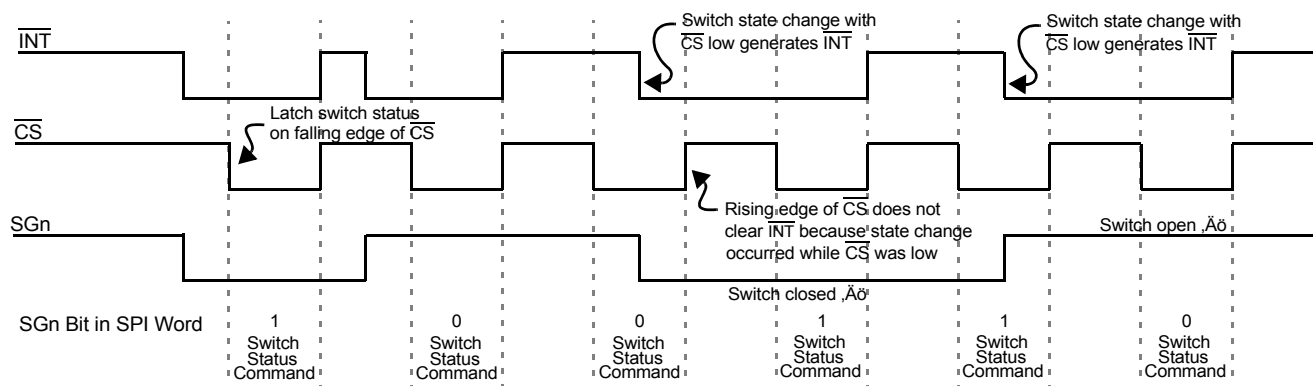

Figure 6. Normal Mode Interrupt Operation
2. $\overline{\text{INT}}$ pin is reset to logic [1], except when additional switch changes occur during $\overline{\text{CS}}$ low (see Figure 6, page 11).
Figure 6, page 11, is a graphical description of the device operation in Normal mode. Switch states are latched into the input register on the falling edge of $\overline{\text{CS}}$. The $\overline{\text{INT}}$ to the MCU is cleared on the rising edge of $\overline{\text{CS}}$. However, $\overline{\text{INT}}$ will not clear on the rising edge of $\overline{\text{CS}}$ if a switch has closed during SPI communication ($\overline{\text{CS}}$ low). This prevents switch states from being missed by the MCU.